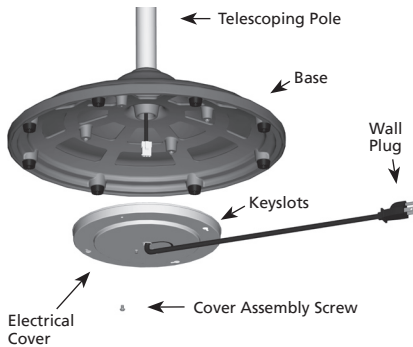

FIGURE 6
13. Remove one of the four Cover Assembly Screws from the bottom of the Cast Iron Base and loosen the three remaining Cover Assembly Screws. See Figure 6.
15. Place the Electrical Cover against the bottom of the Cast Iron Base and align the Keyslots in the Electrical Cover with the three loosened Cover Assembly Screws. Rotate the Electrical Cover counterclockwise. See Figure 6.